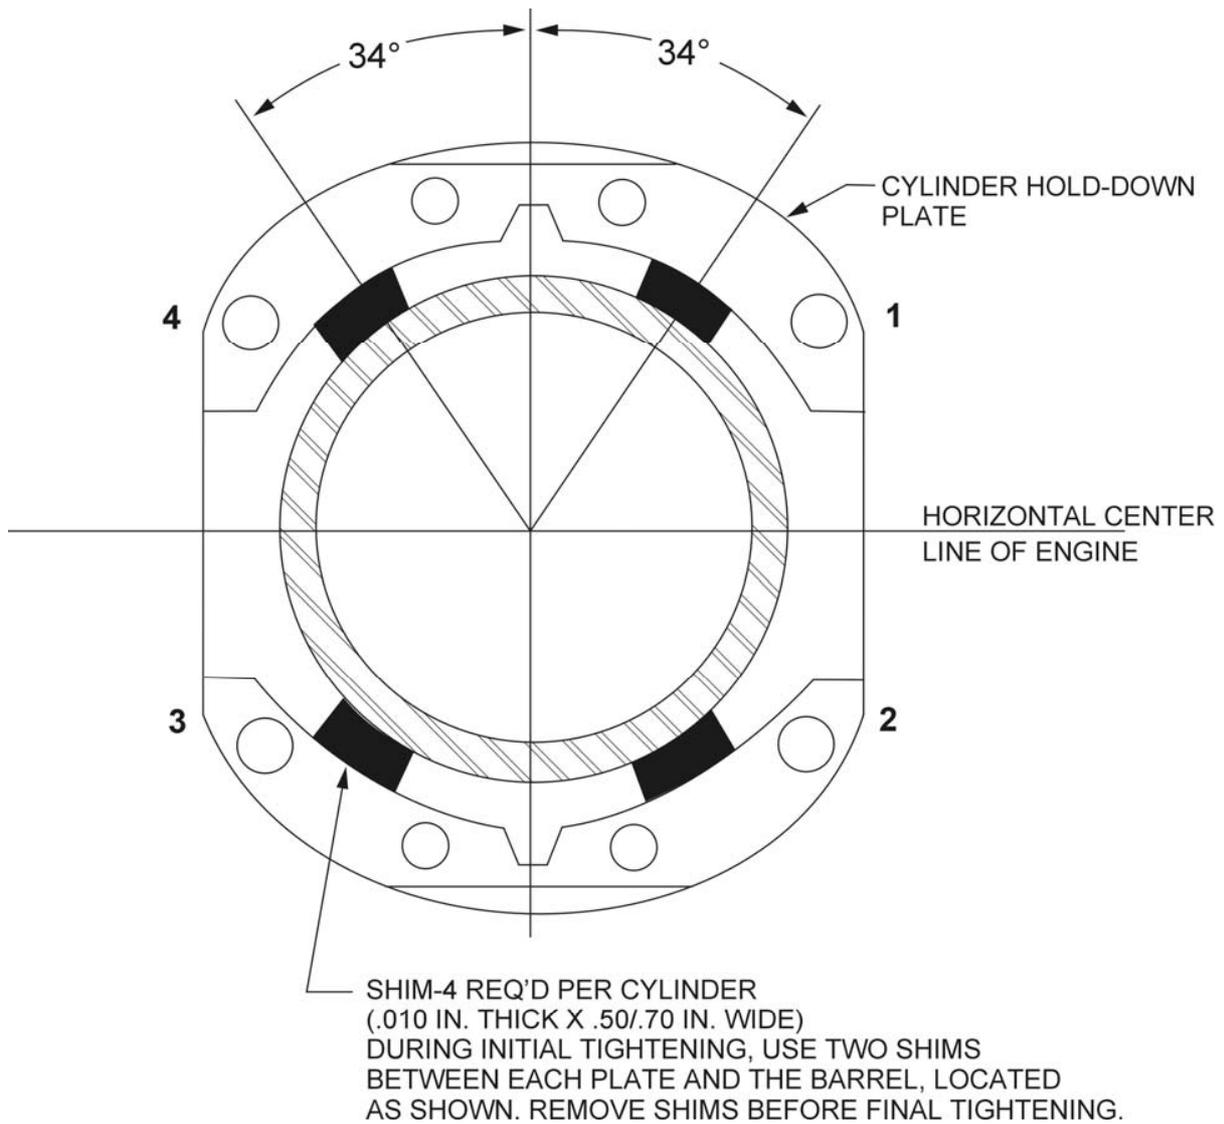

Figure 5-5. Location of Shims Between Cylinder Barrel and Hold-Down Plates (where applicable) and Sequence of Tightening Cylinder Base Hold-Down Nuts
- (a) (*Engines using hold-down plates*) – Install shims between cylinder base hold-down plates and cylinder barrel, as directed in Figure 5-5, and tighten ½ inch hold-down nuts to 300 in.-lbs. (25 ft.-lbs.) torque, using the sequence shown in Figure 5-5.